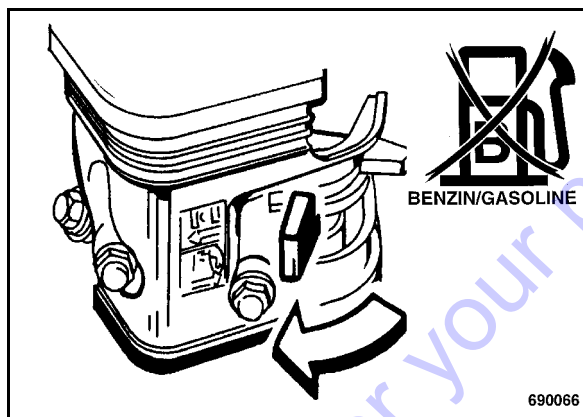

Fig. 31
- Close the fuel tap (Fig. 31) by turning in direction of arrow.